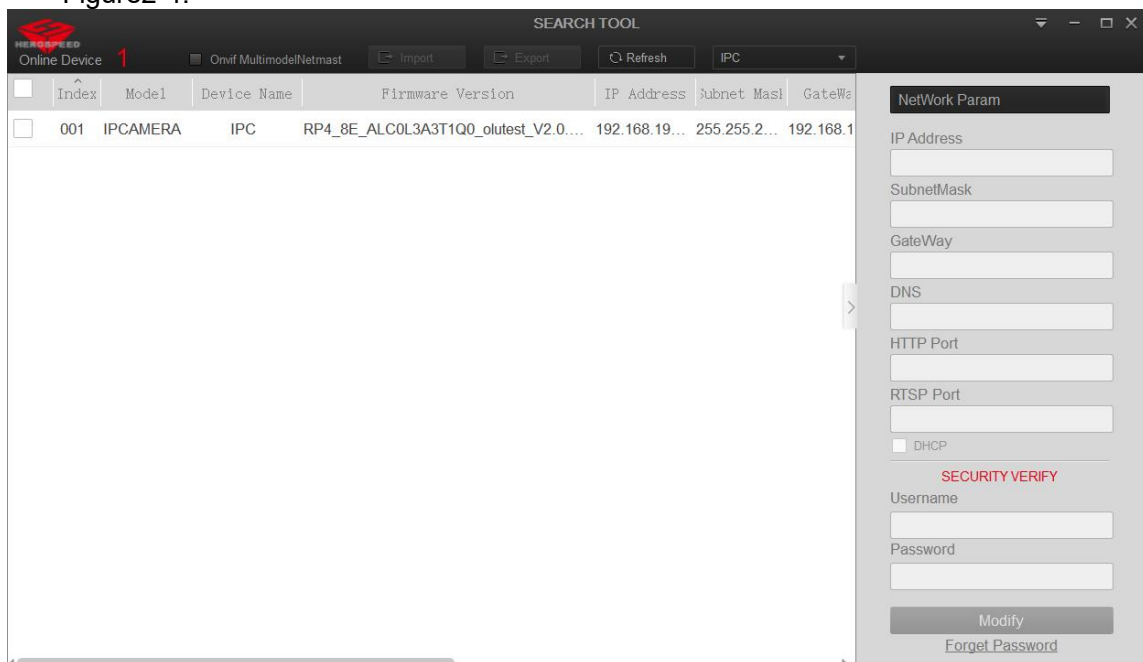

Figure 2-4
- Using the Search tool, you can search all the online cameras in the LAN and display the IP, MAC address, version, port and other information of the cameras, as shown in Figure2-4: